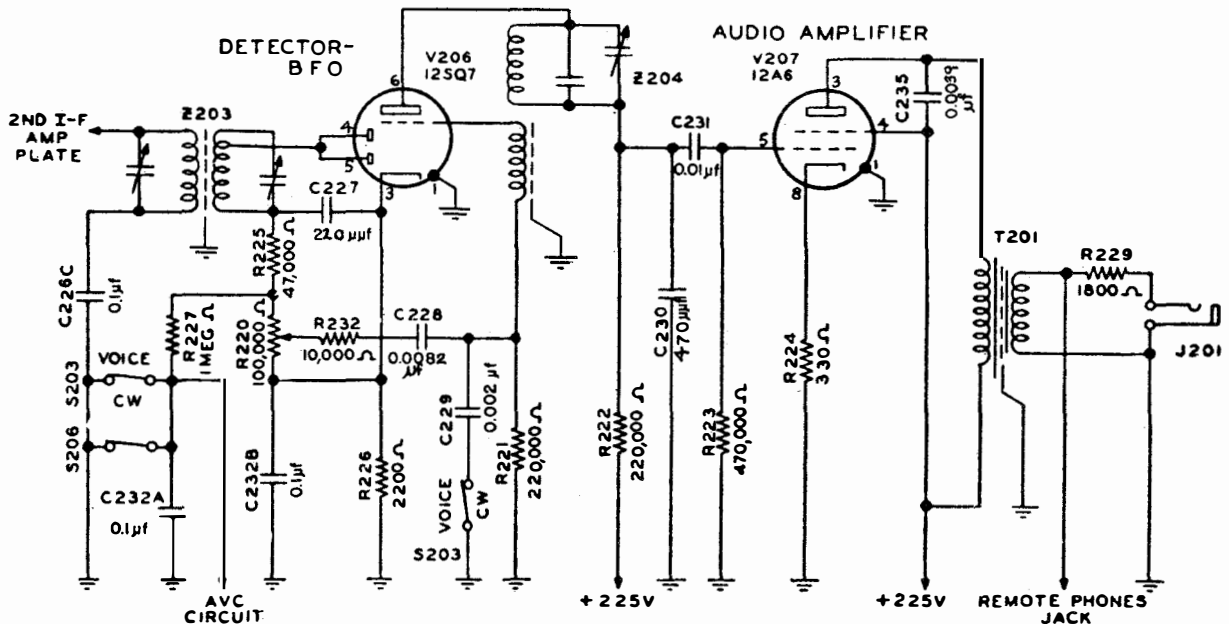

Figure 2-22 Receiver Detector—BFO and A-F Amplifier Circuits
g. AUDIO AMPLIFIER. (See figure 2-22.)—In addition to acting as a detector, BFO and AVC tube, V206 also serves as the first a-f amplifier. The output of the diode-detector section is amplified in the triode audio-amplifier section of V206 and is resistance-coupled to the audio output tube V207, a type 12A6 beam power tube. Audio output is controlled by the A. F. GAIN control R220 which controls the input from the diode section of V206 to the grid of the triode section of the same tube. The output of V207 is coupled to PHONES jack J201 through the output transformer T201. Dropping resistor R229 is in the secondary circuit of this transformer to match the output to the headphones.